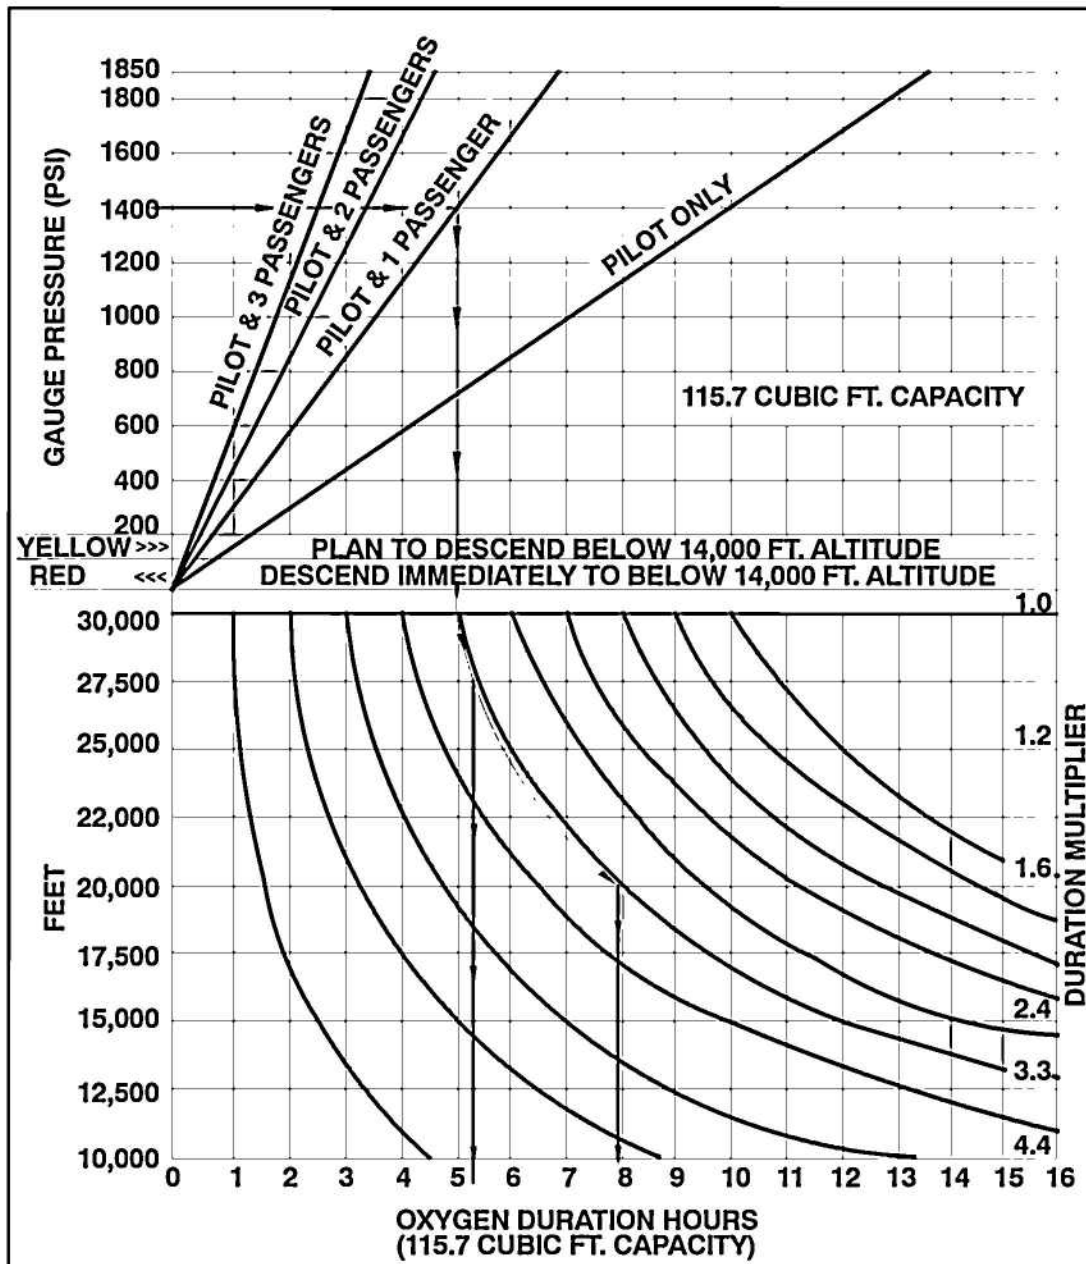
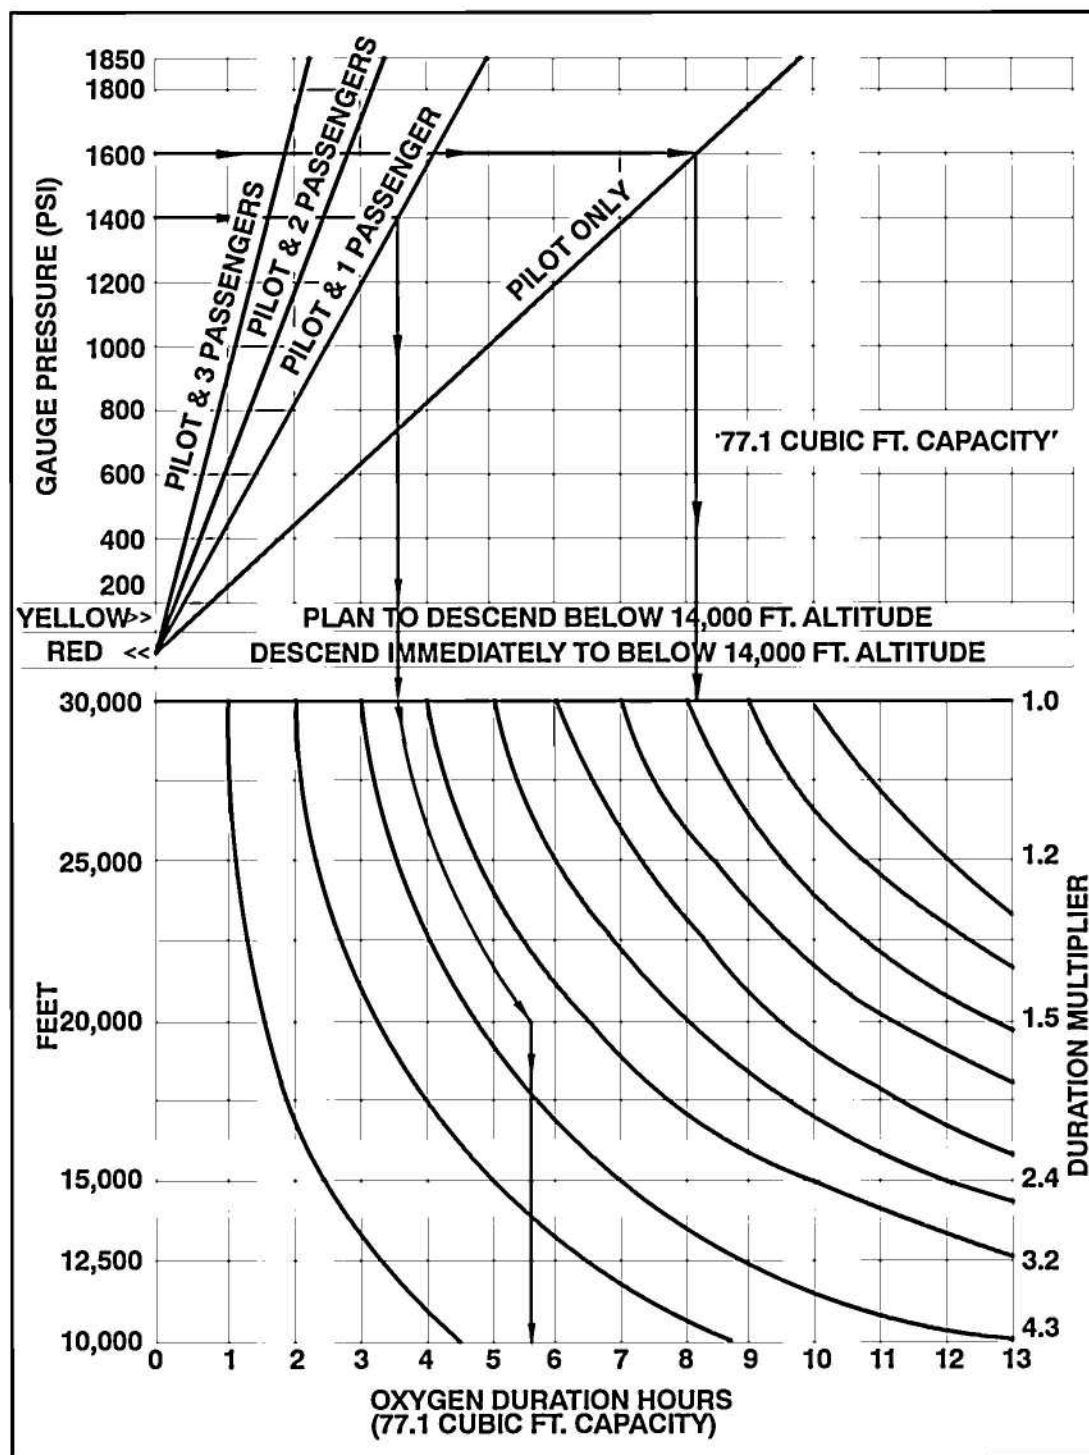

FIGURE 7-12 AVOX OXYGEN DURATION CHART (115.7 CU.FT.)
FIGURE 7-13 AVOX OXYGEN DURATION CHART (77.1 CU.FT.)
A pilot's oxygen panel contains a cylinder pressure gauge, on the pilot's arm rest, effectively a quantity gauge, and a control knob, below arm rest, which is mechanically connected to the shut-off valve at the cylinder. The supply of oxygen can thus be shut off from the cockpit when not required. When the control is in the "ON" position, sufficient oxygen flow is available at the maximum airplane operating altitude (see Section II Limitations) while at lower altitudes the reducing valve automatically economizes the flow to conserve oxygen for longer duration or for future availability, without requiring any action by the pilot (See Fig. 7-12 or Fig. 7-13).
The Avox oxygen system duration chart (Fig. 7-12 or Fig. 7-13) should be used in determining the usable duration (in hours) of the oxygen supply in the airplane for the chosen cruising altitude. The following procedure outlines the method of finding the duration from the chart:
4. As an example of the above procedure (refer to Figure 7-12), 1400 PSI of pressure will safely sustain the pilot and one passenger for 4 hours and 55 minutes at 28,000 ft.; however, cruising at 20,000 ft. would permit an oxygen duration of 7 hours and 55 minutes.